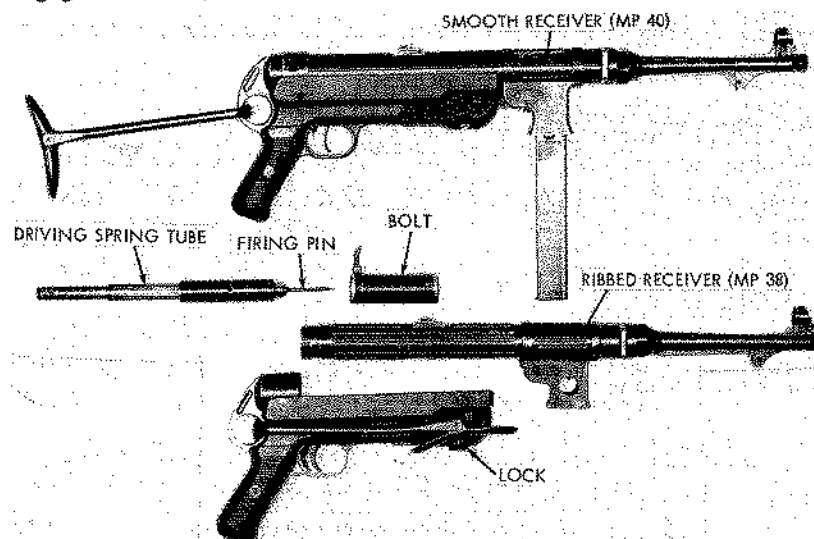

Figure 49. German Model 1938 (bottom) and Model 1940 submachineguns (MP38 and MP40) disassembled.
b. Pull out the lock located at the front end of the frame (fig 49) and twist it to keep it locked out. Hold the magazine housing firmly, press the trigger, and rotate the frame (by means of the pistol grip) to the right. The frame will disengage from the receiver; ease the frame rearward and remove it.
c. Pull the operating handle about 3 inches rearward and remove the telescoping driving spring tube and firing pin (fig 49). Draw the operating handle to the rear to remove the bolt.